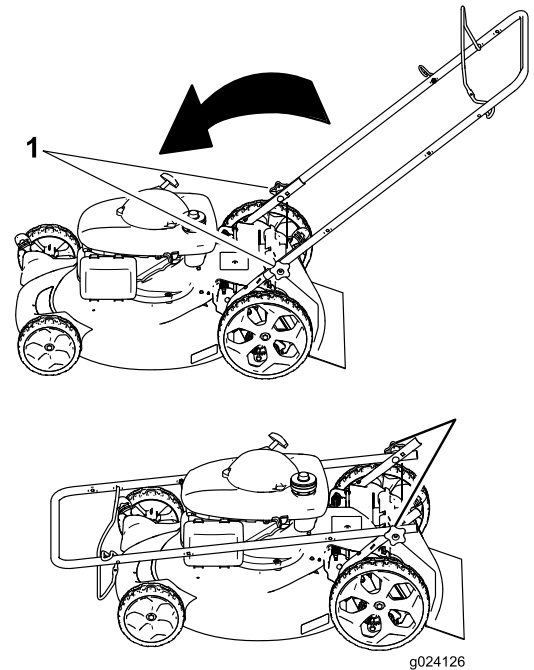

Figure 22
1. Loosen the handle knobs until you can move the handle freely (Figure 22).
1. Handle knob (2)
2. Move the handle forward as shown in Figure 22.